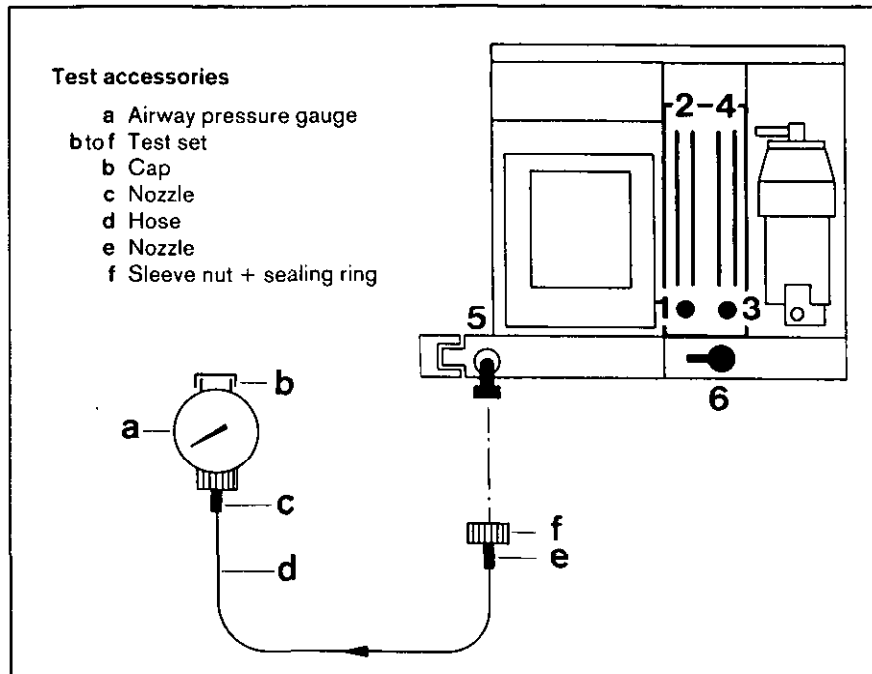

Fig. 15 Sullas 808 V
Accessories required (see Fig. 15):
- Assemble parts a–f according to Fig. 15.
When the O₂-flush lever 6 (Fig. 15) is actuated, a steady flow of gas from the Y-piece of the circle system must be perceptible. Do not seal Y-piece. When released, lever must return to its initial position.